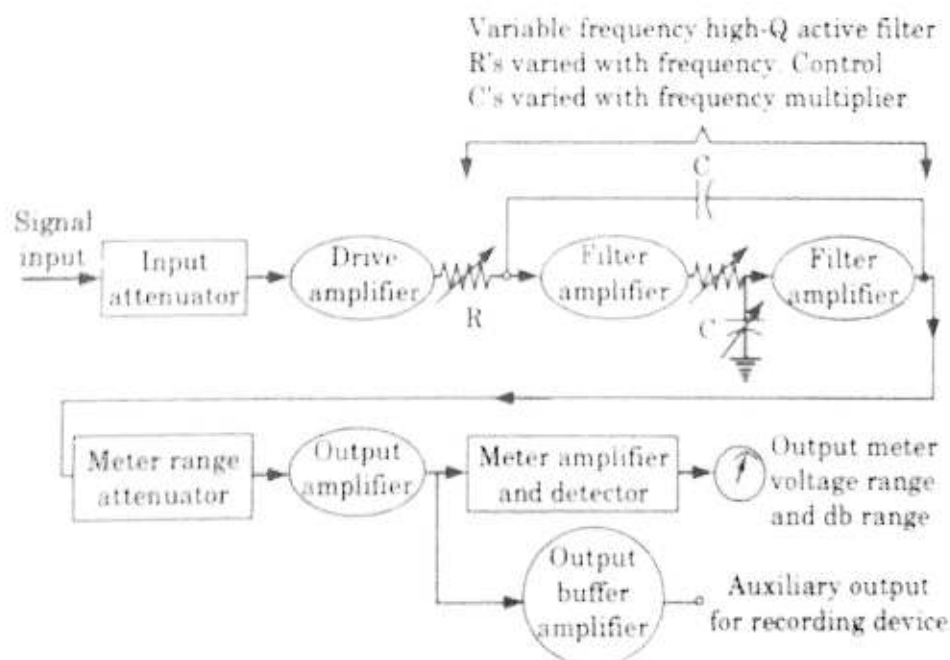

Fig. 4.15.1. Block diagram.
- The block diagram of this wave analyzer is shown in Fig. 4.15.1.